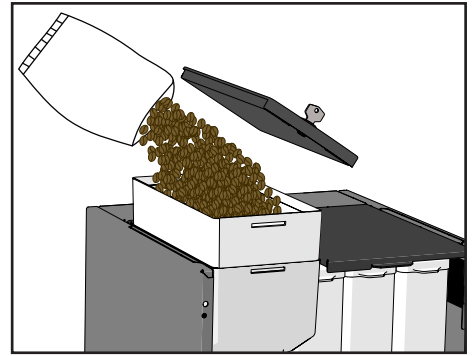

Figure 8.
3. Bean to Brew: Fill the bean canister with coffee beans (see Figure 8).